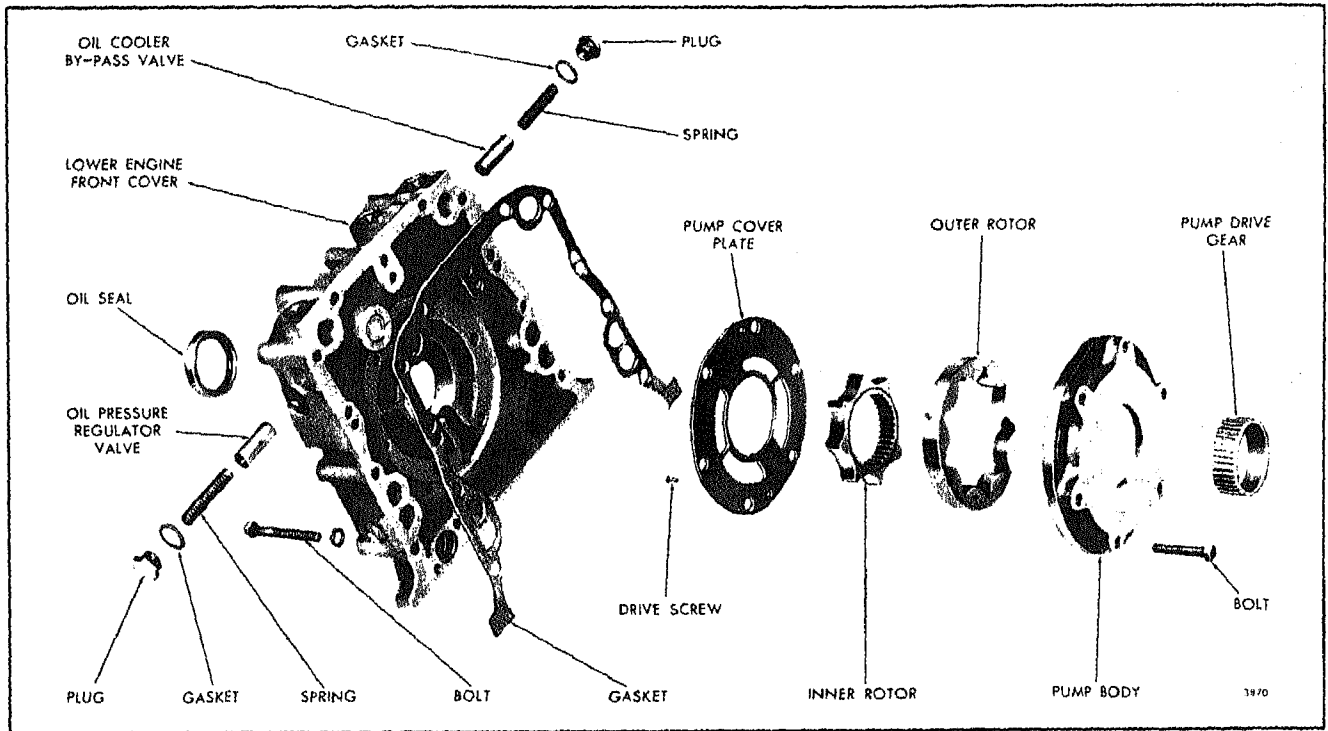

Fig. 5 - Lubricating Oil Pump Details and Relative Location of Parts (Current)
1. Refer to Fig. 5 and remove the two drive screws holding the pump cover plate to the pump body. Withdraw the cover plate from the pump body.
After the oil pump parts have been cleaned and inspected, refer to Fig. 5 or 6 and assemble the pump as follows: